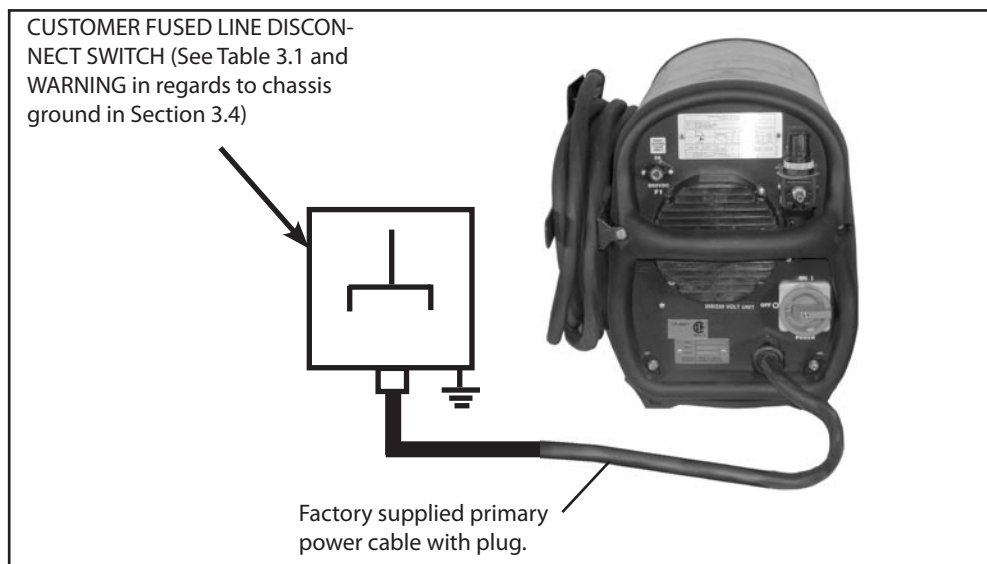

Figure 3.1 Customer Fused Line Disconnect and Receptacle
3.4 CONNECTIONS**3.4.1 PRIMARY ELECTRICAL INPUT CONNECTIONS (FIGURE 3.1)**
A line (wall) disconnect switch with fuses or circuit breakers should be provided at the main power panel (see Fig. 3-1 and Table 3-1 for fuse sizes). The input power cable of the console may be connected directly to the disconnect switch or you may purchase a proper plug and receptacle from a local electrical supplier. If using plug/receptacle combination, see Table 3-1 for recommended input conductors for connecting receptacle to line disconnect switch.